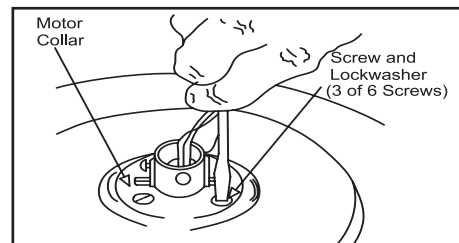

Figure 9
4. Remove three of the six screws and lockwashers (every other one) securing the motor collar to the top of the fan motor housing (Figure 9).